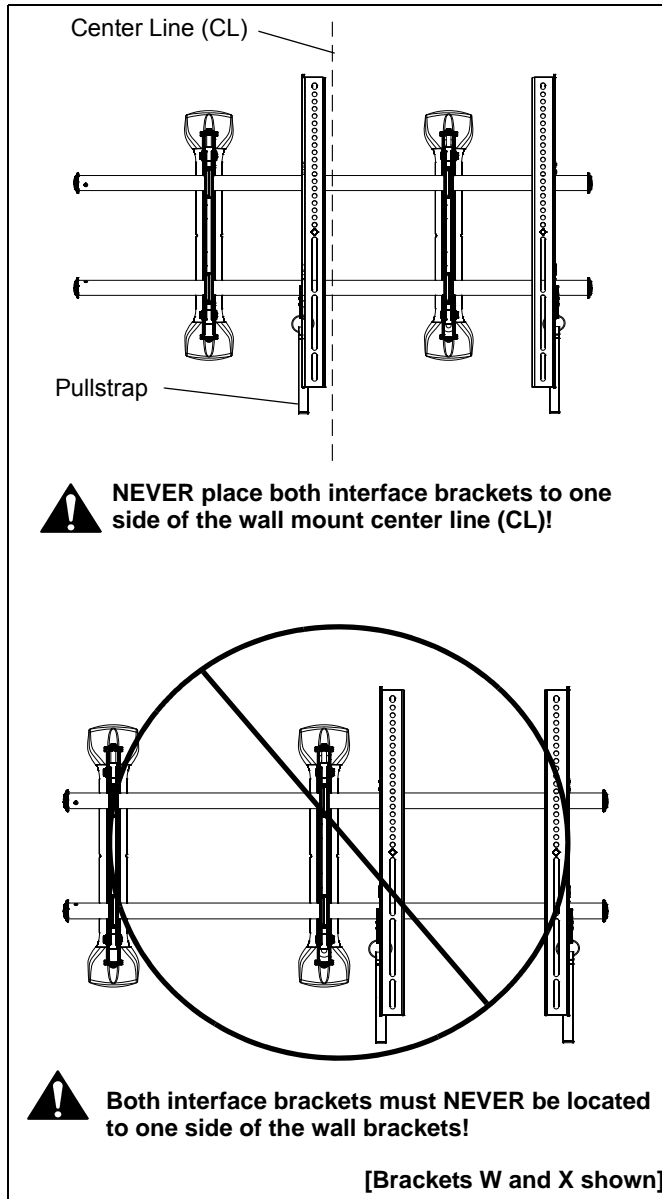

Figure 8
2. Adjust Velcro® pull strap (if necessary) so it does not extend beyond bottom of screen. (See Figure 8)
NOTE: Do NOT allow both interface brackets (W and X or Y and Z) to be located on same side of wall bracket. (See Figure 8)
NOTE: NEVER place both interface brackets (W and X or Y and Z) to one side of the wall mount center line! (See Figure 8)